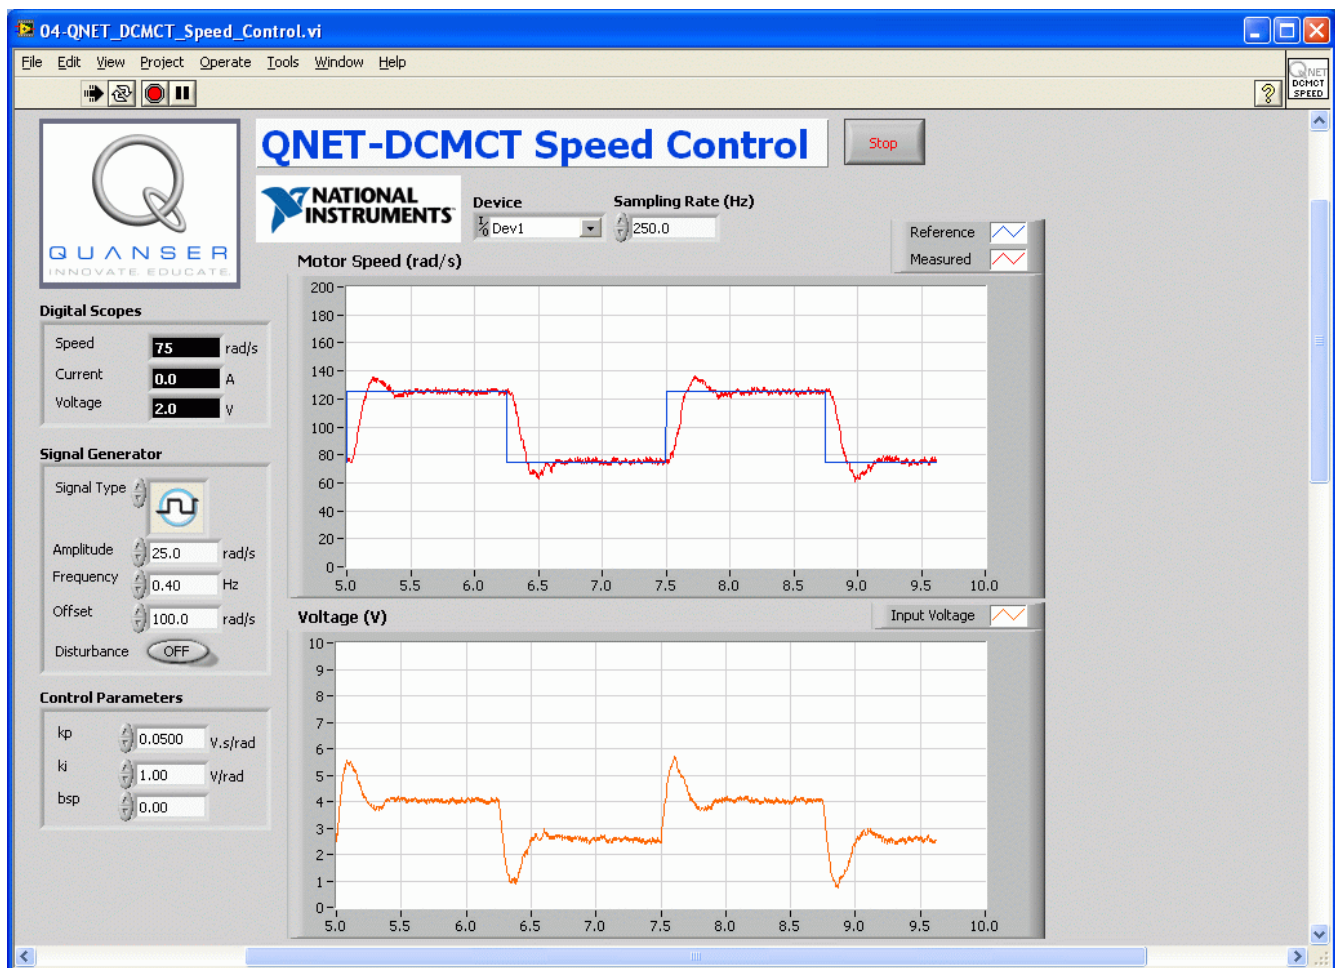

Figure 9: Running the QNET Speed Control VI.
3. Run the QNET\_DCMCT\_Speed\_Control.vi. The motor should begin rotating and the scopes should look similar as shown in Figure 9.
- Run the QNET\_DCMCT\_Speed\_Control.vi. The motor should begin spinning and the scopes plotting traces similarly as illustrated in Figure 9, above.
7. **Exercise 6:** Capture the measured SLD speed response. Make sure you include both the *Speed (rad/s)* and the control signal *Voltage (V)* scopes.